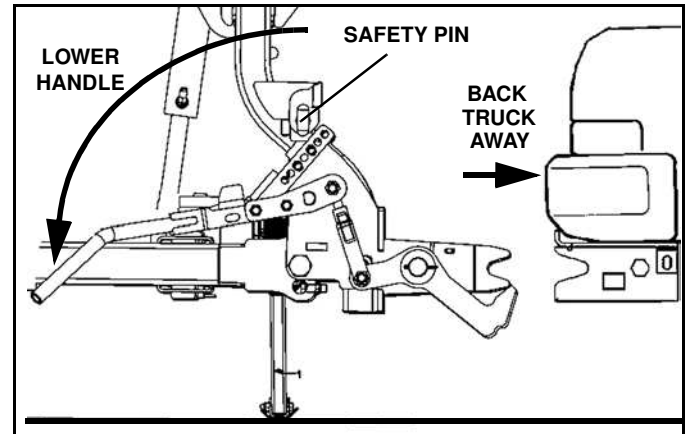

Figure 1-38
7. Pull safety pin on engagement handle to release and lower handle to disengage plow from truck. (See Figure 1-38).
8. Back truck away from plow. (See Figure 1-38).